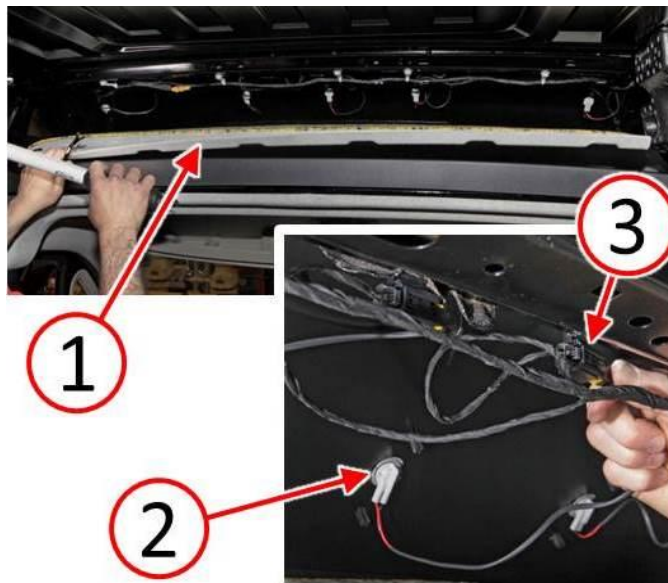

Fig. 13 Roof Clearance Lamp Wire Harness
6. Lower the upper compartment roof liner (1) to access the roof lamp wire harness (Fig. 13).
7. Disconnect the electrical harness connector (3) from any front roof clearance lamps (2) that require replacement (Fig. 13).